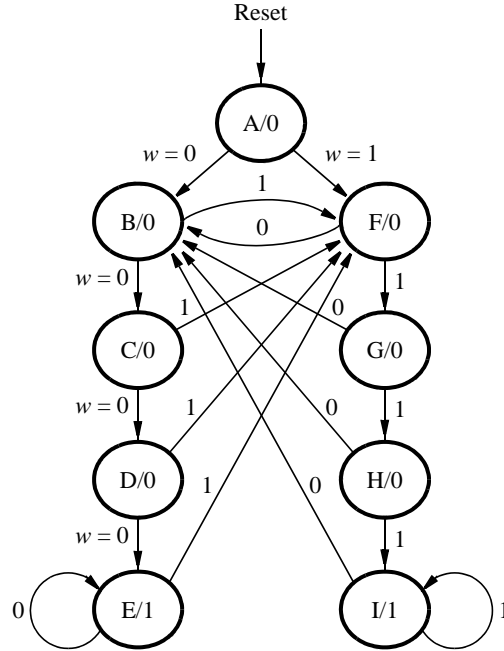

Figure 2: A state diagram for the FSM.
A state diagram for this FSM is shown in Figure 2. For this part you are to manually derive an FSM circuit that implements this state diagram, including the logic expressions that feed each of the state flip-flops. To implement the FSM use nine state flip-flops called y_8, \dots, y_0 and the one-hot state assignment given in Table 1.
For this part you are to write another style of Verilog code for the FSM in Figure 2. In this version of the code you should not manually derive the logic expressions needed for each state flip-flop. Instead, describe the state table for the FSM by using a Verilog **case** statement in an **always** block, and use another **always** block to instantiate the state flip-flops (as demonstrated in the lectures). You can use a third **always** block or simple assignment statements to specify the output z . To implement the FSM, use four state flip-flops y_3, \dots, y_0 and binary codes, as shown in Table 3.
5. Compile your project. To examine the circuit produced by Quartus open the RTL Viewer tool. Double-click on the box shown in the circuit that represents the finite state machine, and determine whether the state diagram that it shows properly corresponds to the one in Figure 2. To see the state codes used for your FSM, open the **Compilation Report**, select the **Analysis and Synthesis** section of the report, and click on **State Machines**.